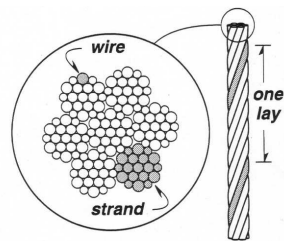

Figure 1 - Broken Wires
- Note the location and concentration of broken wires. Replace the wire cable if more than 6 wires are broken in one lay, or more than 3 wires are broken in one strand in one lay. **See Figure 1.**